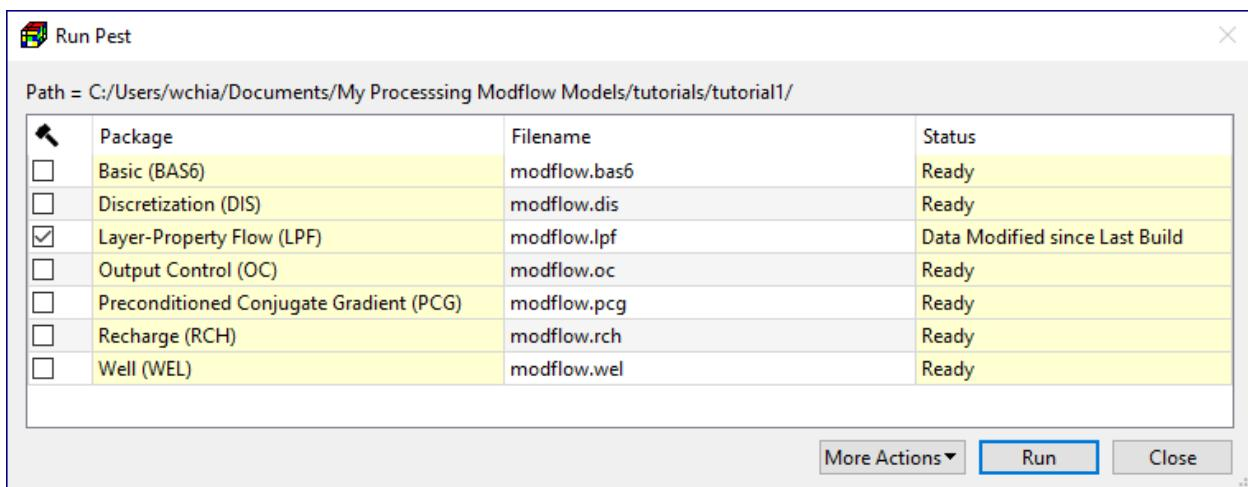

Figure 20. The Run PEST dialog box
1. Select Models > PEST > Run to display the Run PEST dialog box appears (Figure 20). PM will configure the settings for the build boxes in the column automatically.